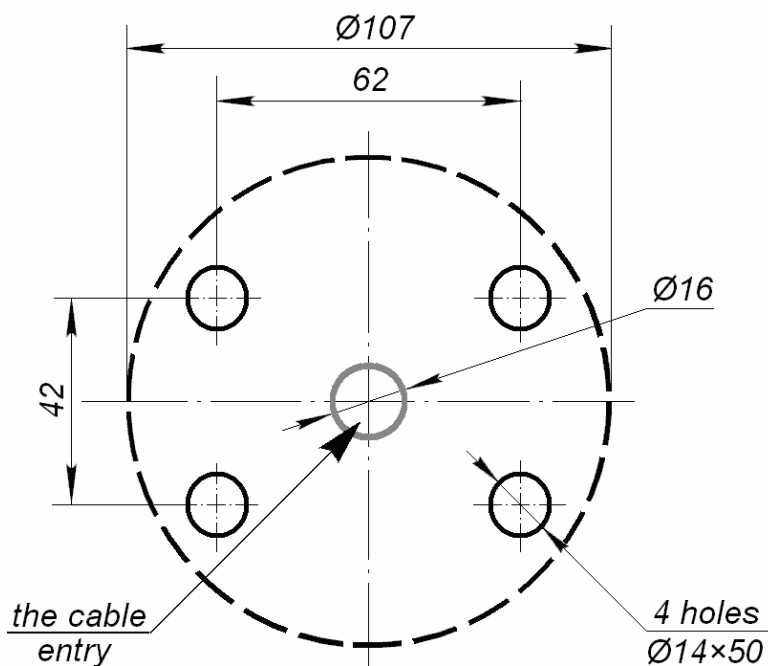

Figure 5. Mounting hole pattern for IRP-01 installation
8. Drag the cable through the central hole in the mounting base with 16 mm diameter (see Fig. 5).